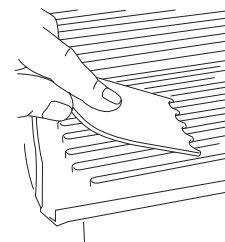

Fig. 9
- 1 Use the cleaning tool to remove residue from the plates. (Fig. 9) Clean the tool by hand or in the dishwasher.